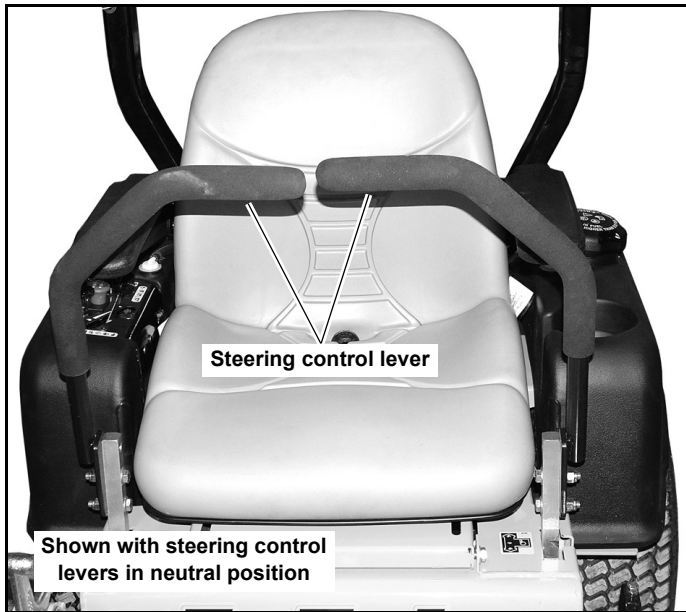
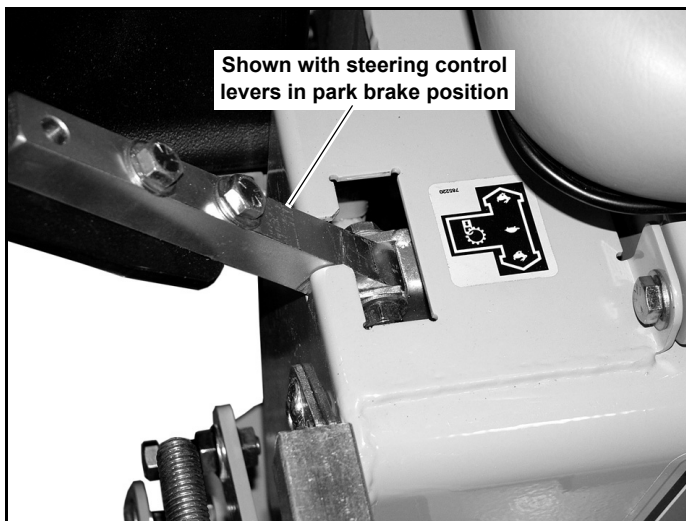

Figure 3-3
Figure 3-4
- A. Steering control levers (Figure 3-3 & Figure 3-4)** — these levers control the mower's speed, direction, stopping, and park brake. These levers are used to steer, accelerate, decelerate and change direction. When the steering control levers are in the park brake position the mower will not move when the engine is on and the drive